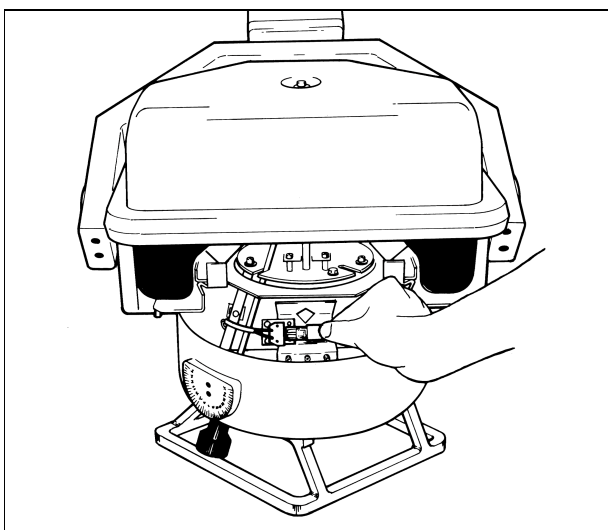

Fig. 3
- Remove the defective lamp and replace it with a new lamp (Fig. 3). **Do not touch the bulb with bare fingers.** (See "list of spare parts".)